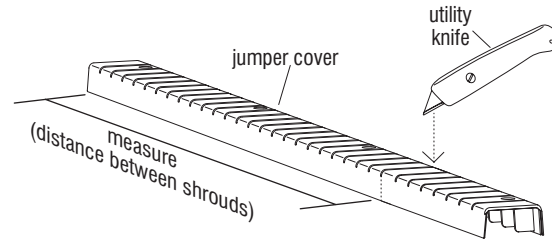

Figure 12
26. Place a jumper cover onto a protective surface and transfer the measurement from step 25 to the cover. Using a utility knife, cut the jumper cover along the slits in the cover, then cut down along the sides and separate the cover apart (Figure 12).